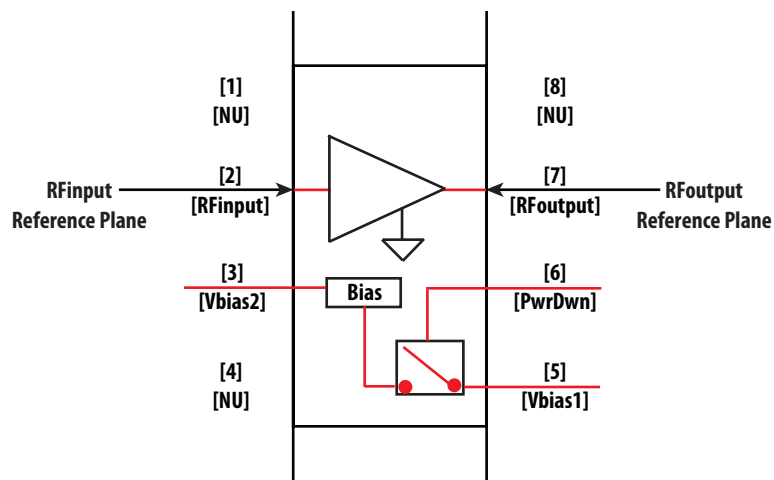

Figure 25. RFinput and RFoutput Reference Plane
2. Scattering and noise parameters are measured on coplanar waveguide made on 0.010 inch thick ROGER 4350. The input reference plane is at the end of the R_Finput pin and the output reference plane is at the end of the R_Foutput pin as shown in Figure 25.